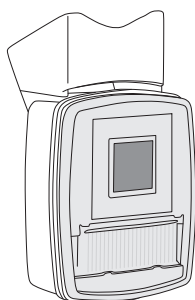

Fig. 13: Rain and sun sensor
As an alternative to the electric motor, the fabric panel of the vertical awning (except type VM720/3) can be steplessly operated manually via the gear with the manual crank (Fig. 13).
1. Insert the manual crank in the crank slot (Fig. 13).